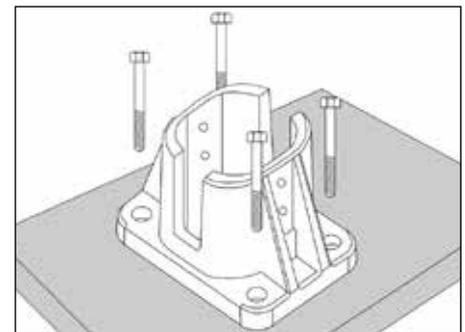

Figure 2
**E.** Re-position the base foot (**72BFG**) and secure with the four anchor sleeves provided. See **Figure 2**.